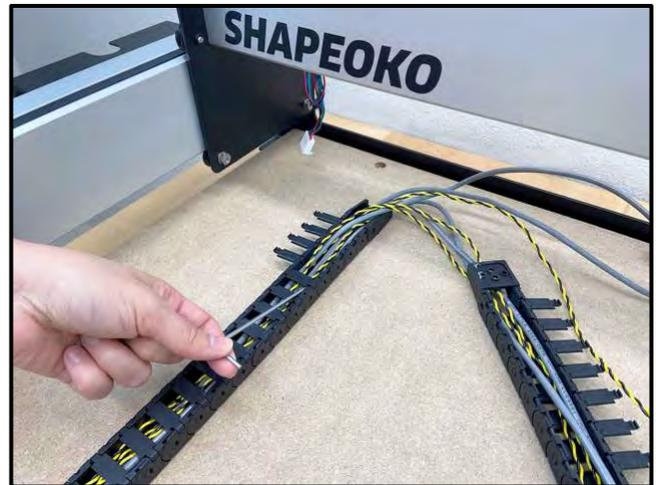
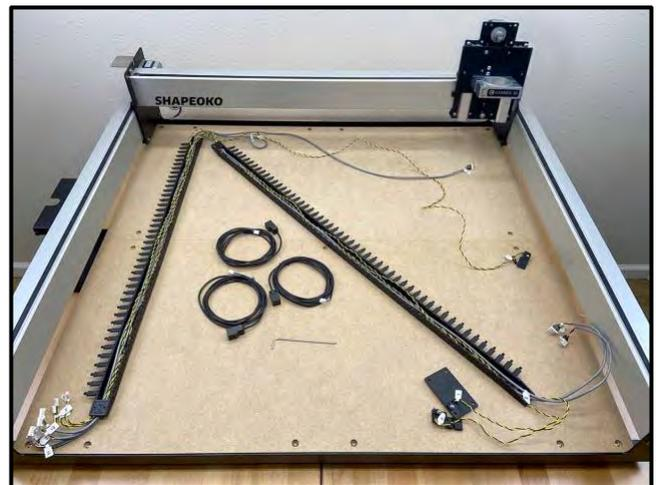

Figure 5
Figure 6
1. Open up the drag chain and remove the three homing switch cables (black/yellow or black/orange twisted wires). See **Fig. 5** and **Fig. 6**.
- a. Position the drag chain on the baseframe as shown in **Fig. 6**, with the chain’s clip-on panels facing up. (Only one side of the chain will open; be sure this side is facing up.)
- b. Use a hex key or screwdriver as a lever to pry open one side of each drag chain link. Start from the rear of the machine and work your way forward (as shown in **Fig. 5**).